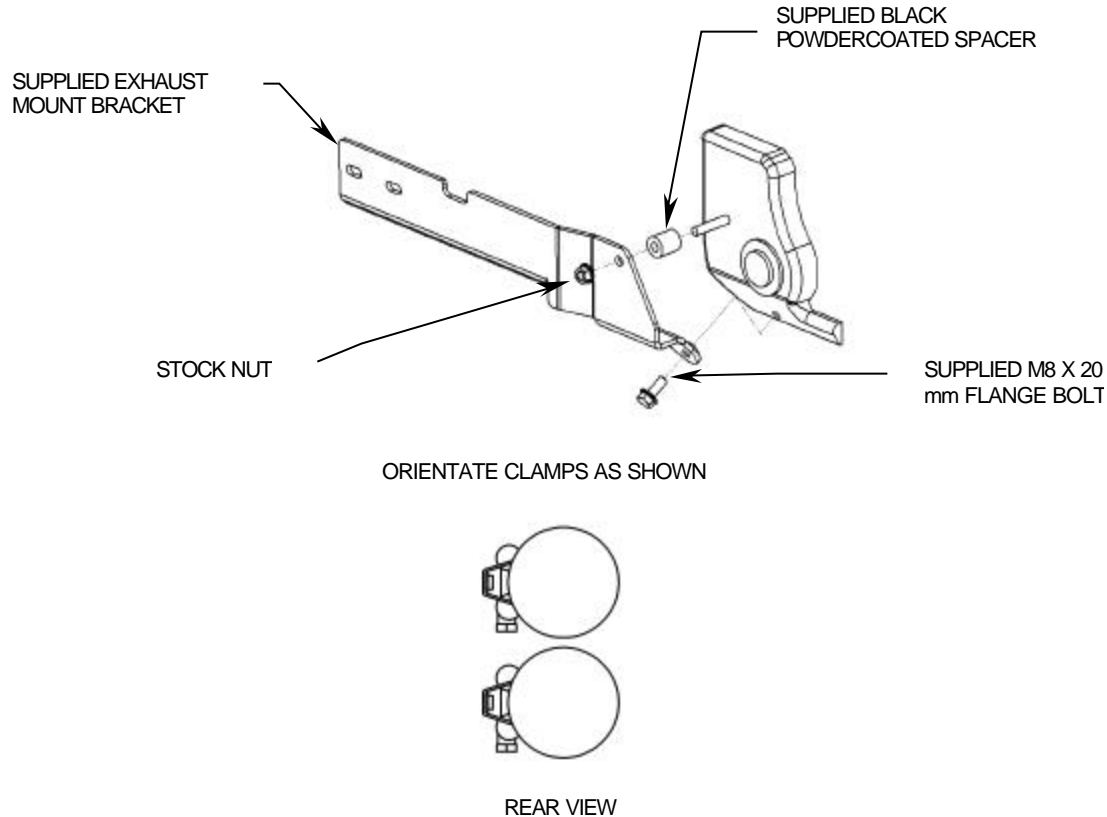

FIGURE 2
5. Slide one supplied clamp onto each muffler and position as shown in Figure 2.
9. To install the front heatshield, first slide the rear portion of the heatshield over the muffler, continue to slowly slide it forward pushing the front of the shield gently into place between the frame and motor (Hint: Spread the hose clamps apart slightly to make it easier to slide them over the muffler assembly and head pipes). Make sure the muffler clamps do not interfere with the heatshields and are aligned as shown in Figure 2. Snug the heatshield clamps but **do not tighten**.